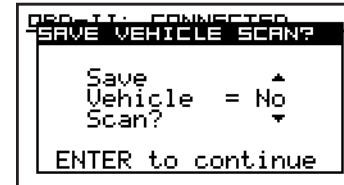

Fig. 16
- 4a. If the read was successful, the Save Vehicle Scan question is displayed (*Fig. 16*).
At the conclusion of a successful vehicle scan, the vehicle configuration and scanned data information can be saved for later reference (*Fig. 16*). A tag name is entered that is used to identify the scan at a later time (*Fig. 18*). Up to 10 characters can be used for the name. To recall a saved scan refer to “Viewing the OBD-I (GM, Chrysler) Vehicle Data” in this manual.